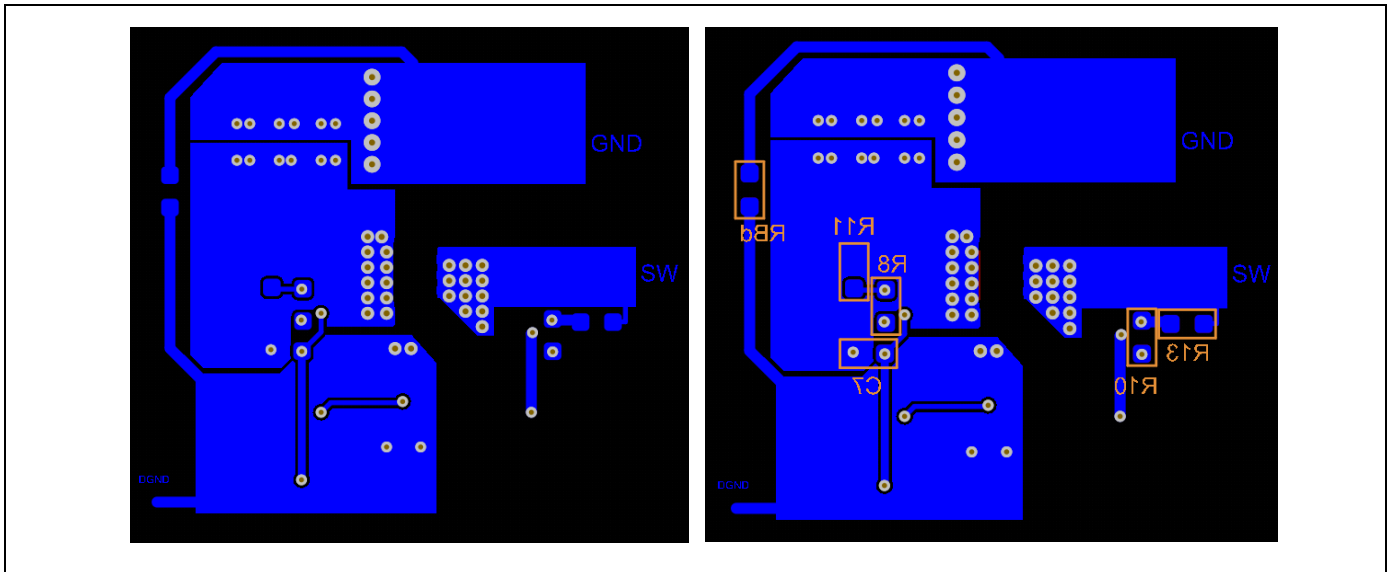

**Figure 24** CoolGaN™ IPS circuitry with external passive components
**Figure 23** shows the suggested arrangement of the power stage and the external components on the PCB based on the schematic shown in the **Figure 24**.